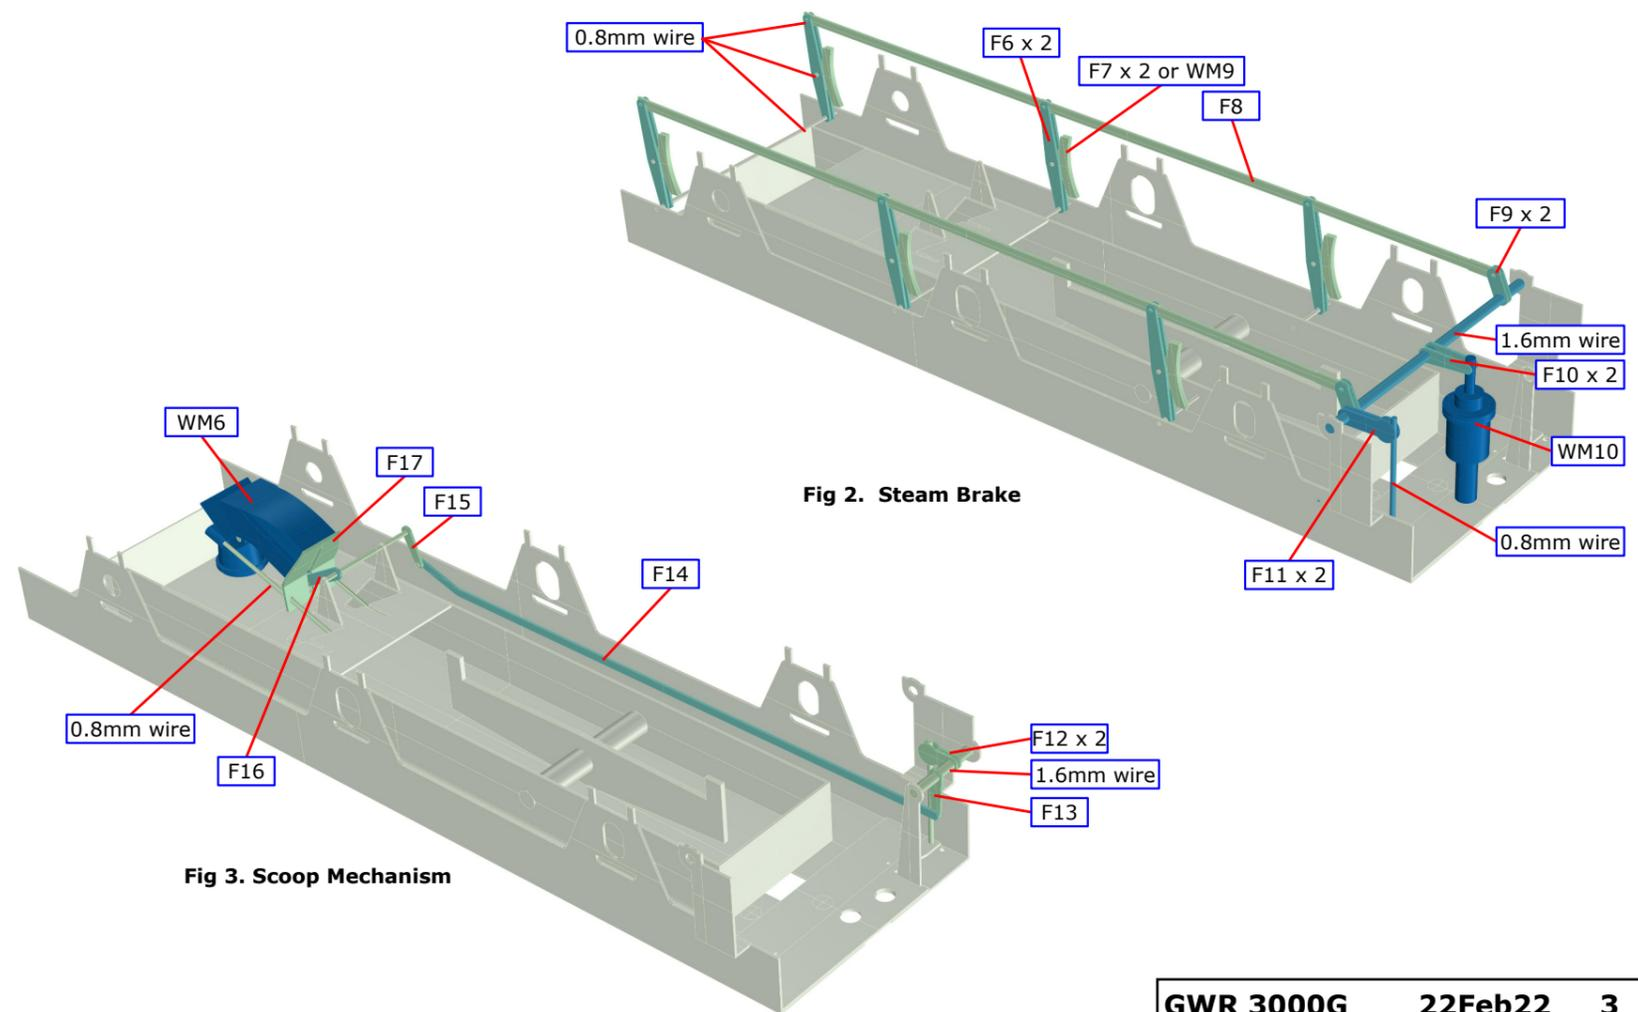

Fig 2. Steam Brake
**Brake Operating Mechanism.** (Blue in Fig 2). Attach the steam brake cylinder casting (WM10). The brake shaft is made from 1.6mm wire and should be cut to be just longer than the width over the frames. Thread the two sets of brake pull rod lever laminations (F9), the brake cylinder to cross shaft lever laminations (F10) and the brake standard to cross shaft lever laminations (F11) onto the shaft and solder the shaft in place. The bottom of the standard is a piece of 0.8 mm wire that should be soldered into the hole in the chassis. Solder the brake standard to cross shaft levers to the wire and to the shaft. Solder the two brake cylinder to cross shaft levers either side of the piston rod and then solder them to the shaft. Don't solder the pull rod levers (F9) to the cross shaft yet.